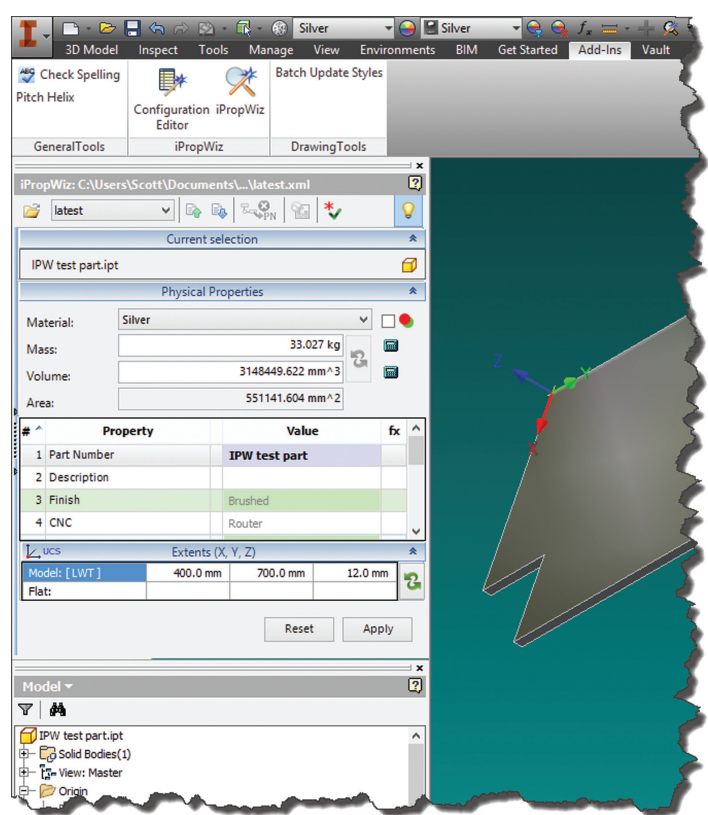

Figure 10: The PE is now dockable and modeless
- The Property editor is now a modeless, dockable window (see Figure 10), making property management omnipresent.